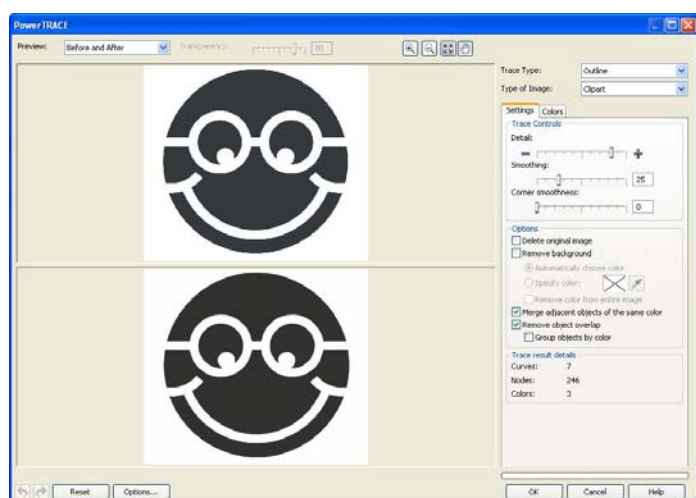

Figure 2
- In the PowerTRACE window, you may adjust the smoothness and detail as you see fit, and then hit “OK” to confirm. (See Figure 2)